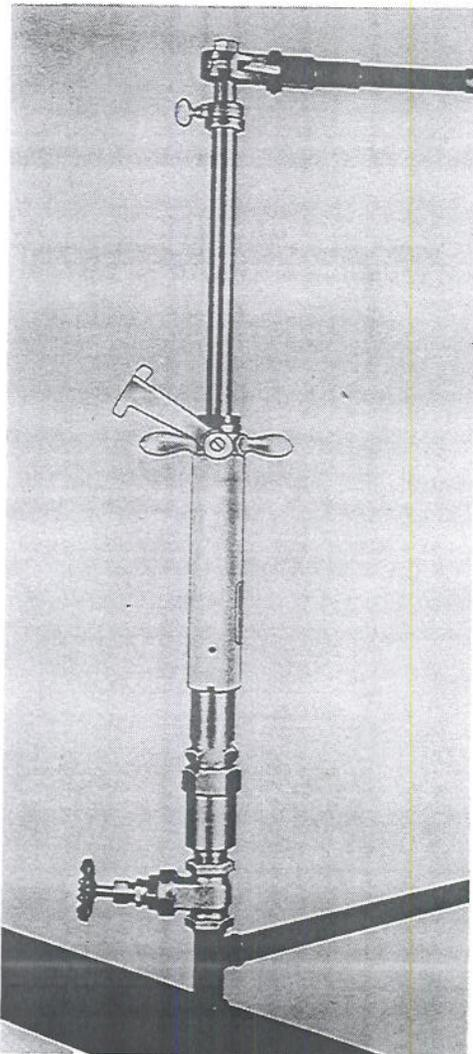

FIGURE 12
5. Place the drilling machine on gate valve and tighten machine adapter nipple into gate valve. **Figure 12.**